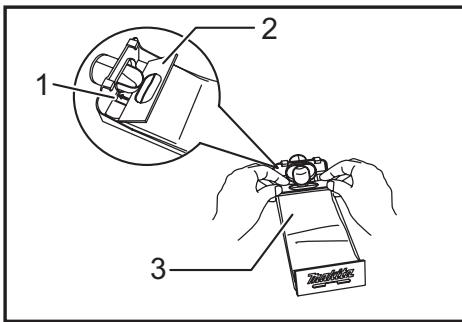

Fig.6
- Fig.6: 1. Groove 2. Front fixing cardboard 3. Front side of paper dust bag